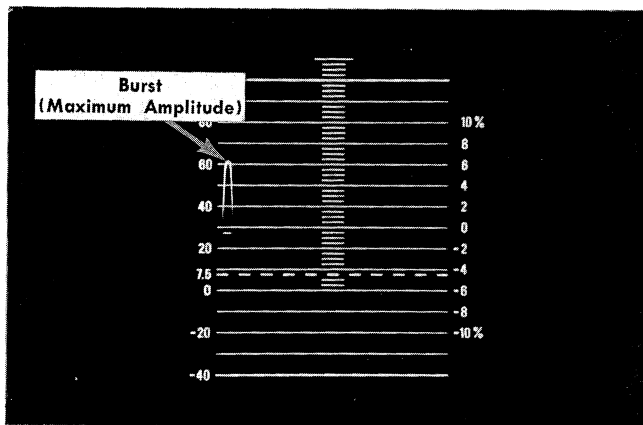

Fig. 5-3. Correct Type R520 color bar display for adjusting burst flag timing.
- d. Rotate the channel A PHASE control to obtain maximum positive-going burst amplitude; see Fig. 5-3.
g. Rotate the channel A PHASE control to obtain maximum positive-going burst amplitude; see Fig. 5-3.